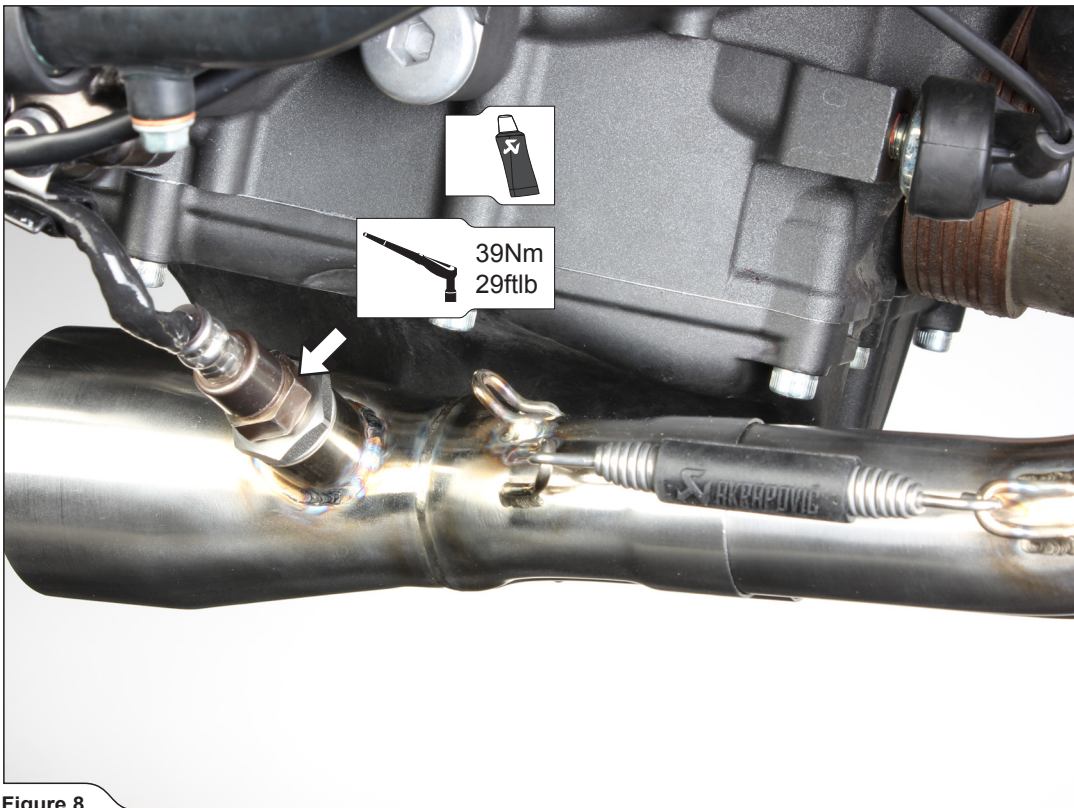

Figure 8
- ! IMPORTANT: make sure not to damage the lambda sensor's electrical lead during this process (Figure 8)!